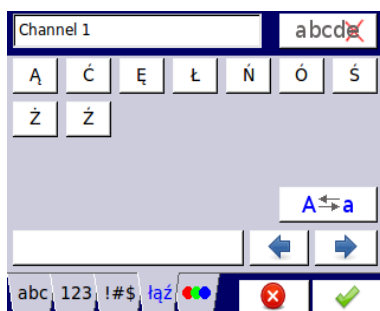

Fig. 7.4. Text editor – diacritical letters
- diacritical letters, Fig. 7.4,